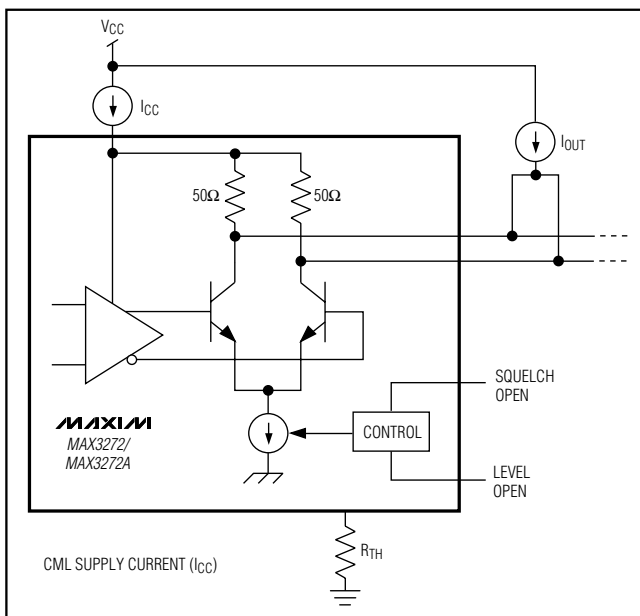

Figure 1. Power-Supply Current Measurement
- Note 2:** Supply current measurement excludes the current of the CML output stage (16mA typical). See Figure 1, *Power-Supply Current Measurement*.